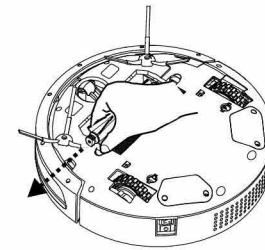

Fig. 2
- 2.As shown in fig. 2,pull up the left side of the roller brush and take it out.